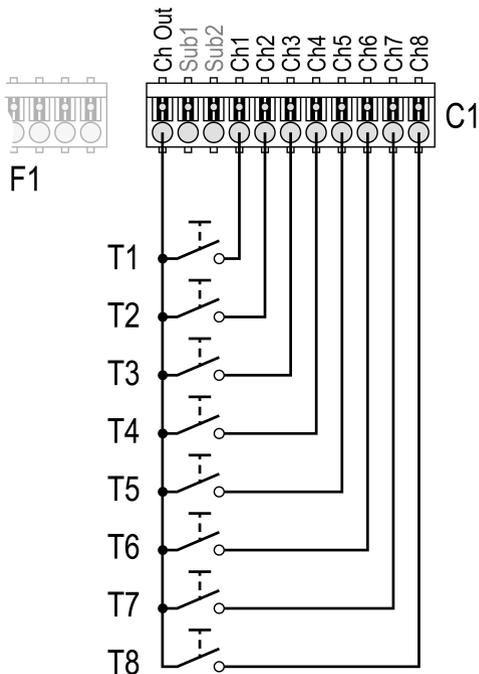

Figure 15: Connecting push-buttons
- Connect push-buttons **T1...T8** as shown (Figure 15).